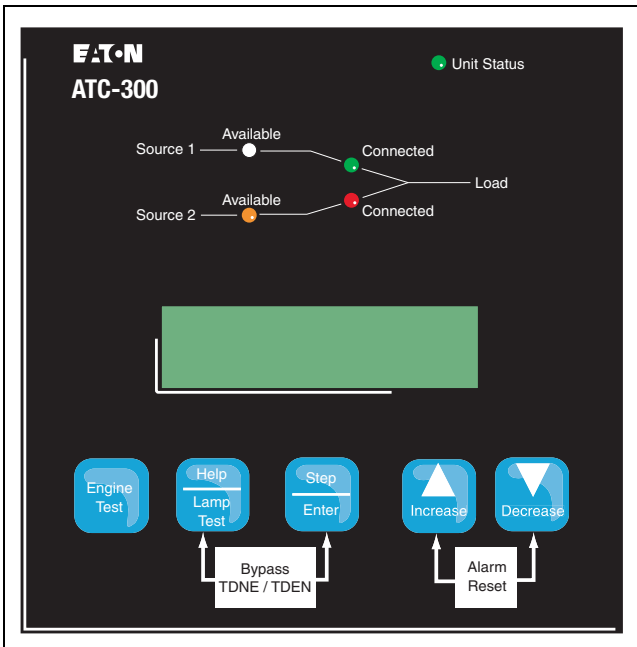

Figure 28. ATC-300 Logic.
Step 9: Initiate a Load Test from the front panel of the ATC-300 (Figure 28). This may be done by setting the engine test setpoint to: